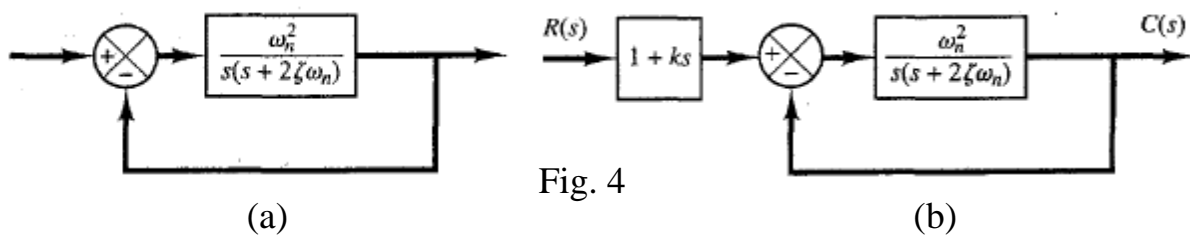

Fig. 4
- 5) Consider the system shown in Fig. 4(a). The steady-state error to a unit-ramp input is  $e_{ss} = \frac{2\zeta}{\omega_n}$ . Show that the steady-state error for following a ramp input may be eliminated if the input is introduced to the system through a proportional-plus-derivative filter, as shown in Fig. 4(b), and the value of  $k$  is properly set.